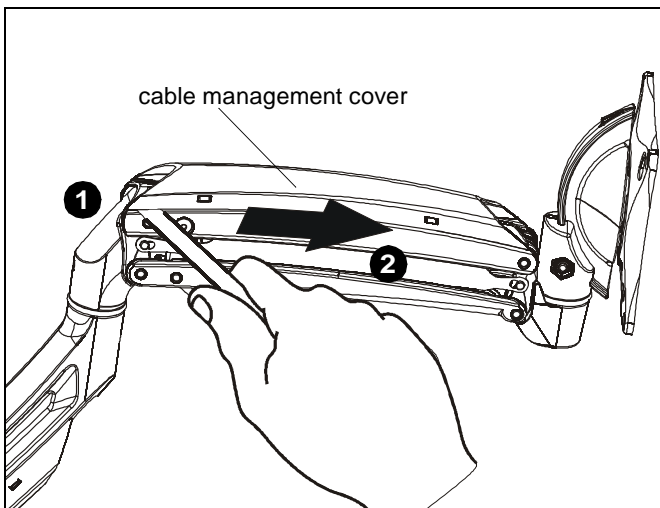

Figure 17
1. Use screwdriver to unhinge tab on either end of cable management cover on upper arm. (See Figure 17)
2. Slide screwdriver along edge of cover until remaining tabs are unhinged and cover is in the "open" position. (See Figure 17)